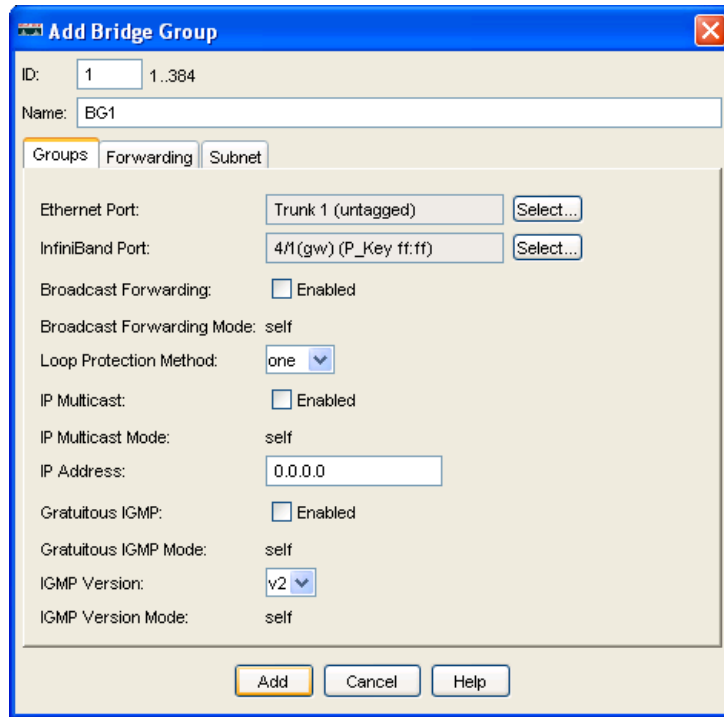

Figure 7-20 BG1 set to use the trunk group ID 1 (TG1)
- After configuring the trunk group (TG1) to use the gateway module Ethernet ports 4/1 and 4/2, recreate the bridge group BG1 and assign trunk group TG1 as its Ethernet member. Follow the steps in starting at step 1 on page 125, but instead of selecting a physical port for the Ethernet connection, select *trunk 1* as the Ethernet port, as seen in Figure 7-20. Remember to also configure the Forwarding and Subnet tabs per the instructions starting at step 1 on page 125.